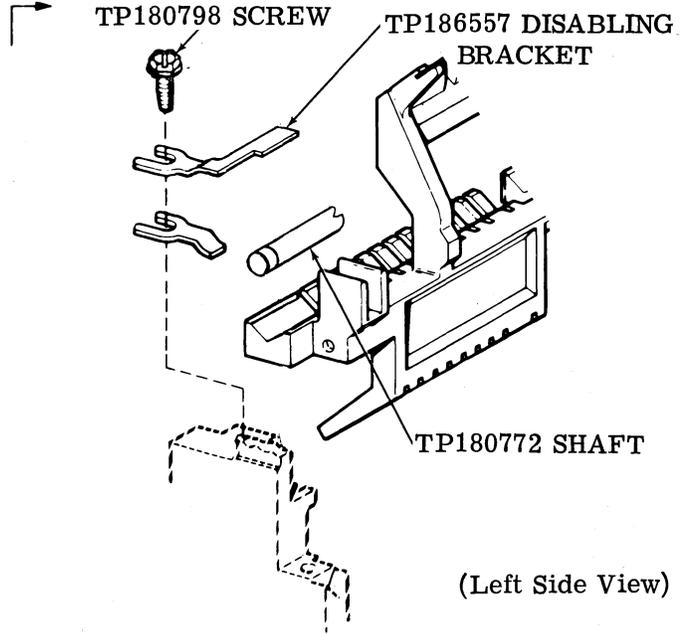
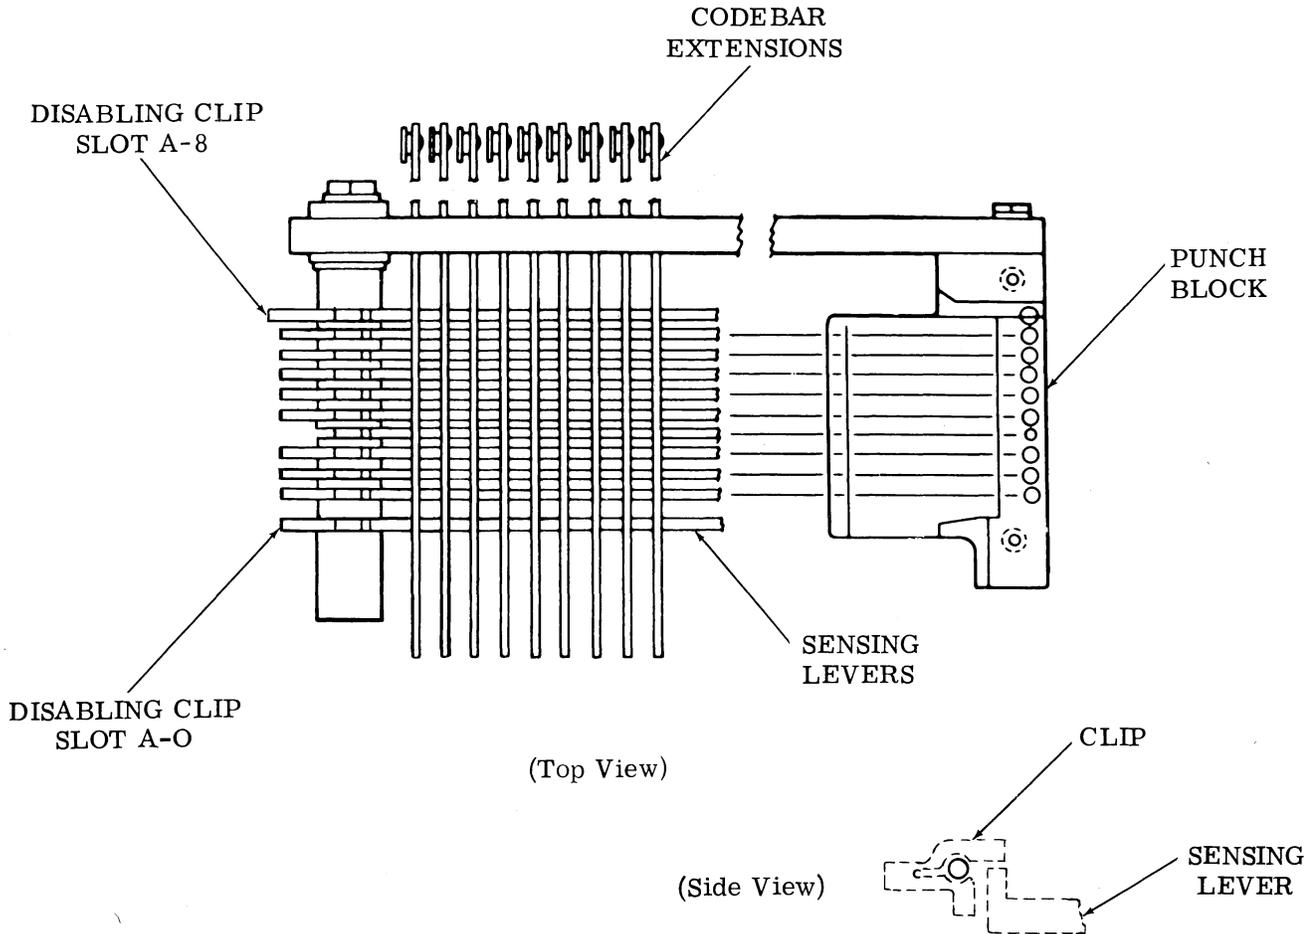

Figure 16 - New Line Disabling Bracket
Figure 17 - Tape Punch Disabling Clips
(7) PLACEMENT (2.17 thru 2.21)
(8) FINAL ASSEMBLY — The back panel and cover should not be replaced until all components have been readied for proper operation. The typing units are equipped with a new line feature which is disabled at the factory by means of a TP186557 disabling bracket (Figure 16) located under the TP180798 screw that holds the TP180772 shaft in place on the left side of the function box. The TP186557 disabling bracket makes contact with and disengages the TP181325 pawl in slot A. To enable the new line feature remove the TP186557 bracket. Also at this time the operational mode of the tape punch should be determined. As shipped from the factory, the punch has two disabling clips installed in slots A-0 and A-8. If manual operation of the punch is desired, retain the two clips. If automatic operation is desired, remove the two clips. See Figure 17. Proceed with FINAL ASSEMBLY, 3.03 thru 3.06.